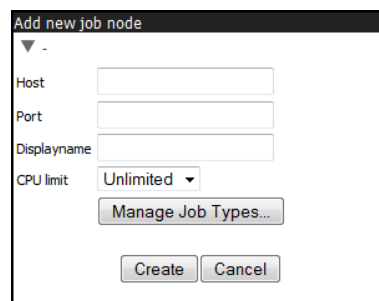

Figure 6.3: Add new job node.
- Enter information about the node in the fields (see figure 6.3).